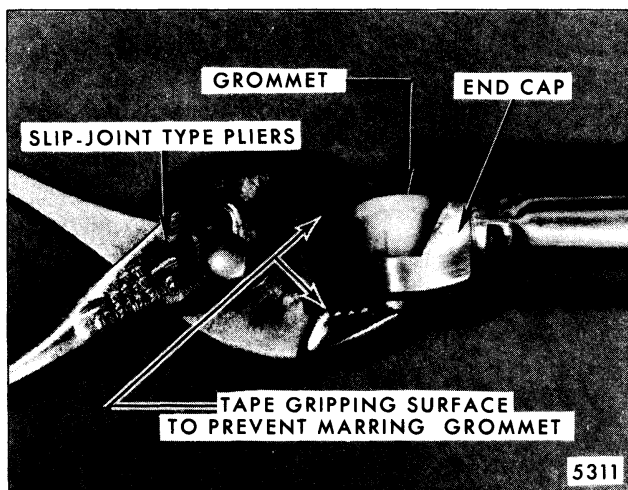

Fig. 7-29-Counterbalance Support Assembly Grommet Replacement - "X-17" Style Only
3. Locate new grommet to end cap eyelet and press into position with pliers or similar tool (Fig. 7-29).